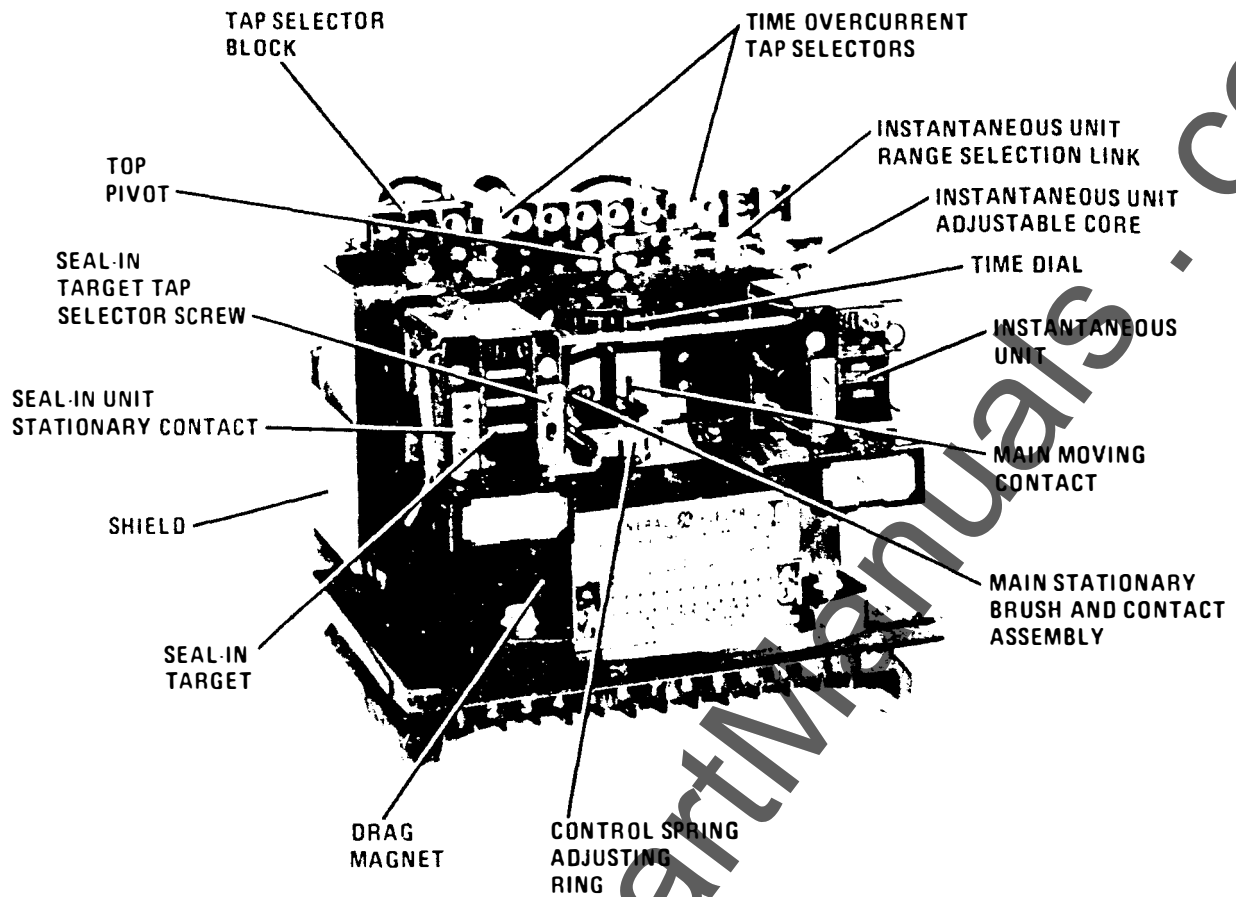

FIGURE 1 (8042708) TYPE IFC53B RELAY, REMOVED FROM CASE, FRONT VIEW
The target and seal-in unit has an operating coil tapped at 0.2 and 2.0 amperes. The relay is shipped from the factory with the tap screw in the higher ampere position. The tap screw is the screw holding the right hand stationary contact. To change the tap setting, first remove one screw from the left hand stationary contact and place it in the desired tap. Next remove the screw from the undesired tap and place it on the left hand stationary contact where the first screw was removed. See Figure 1. This procedure is necessary to prevent the right hand stationary contact from getting out of adjustment. Screws should never be left in both taps at the same time.
1. Select the desired range by setting the link in the proper position. (See Figure 1 and the Internal Connections Diagram). Whenever possible always select the higher range since it has higher continuous rating.
However, it would be preferable to adjust the operating time as near as possible to 1.78, 1.31 or 0.92 seconds. The drag magnet assembly should be approximately in the middle of its travel. The drag magnet assembly is adjusted by loosening the two screws securing it to the support structure. See Figure 1. Moving the drag magnet towards the disk and shaft decreases the operating time and moving the drag magnet away from the disk and shaft increases the operating time. The screws securing the drag magnet assembly to the support structure must be tight before proceeding with other time checks.